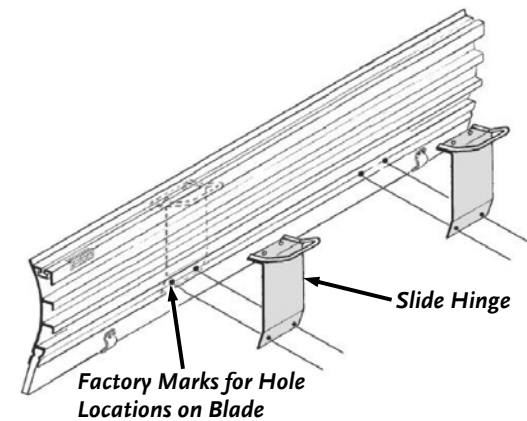

Figure 3
6. Locate factory marks on back of blade. Place slide hinge on blade and align both lower holes with marks on blade (**Figure 3**).